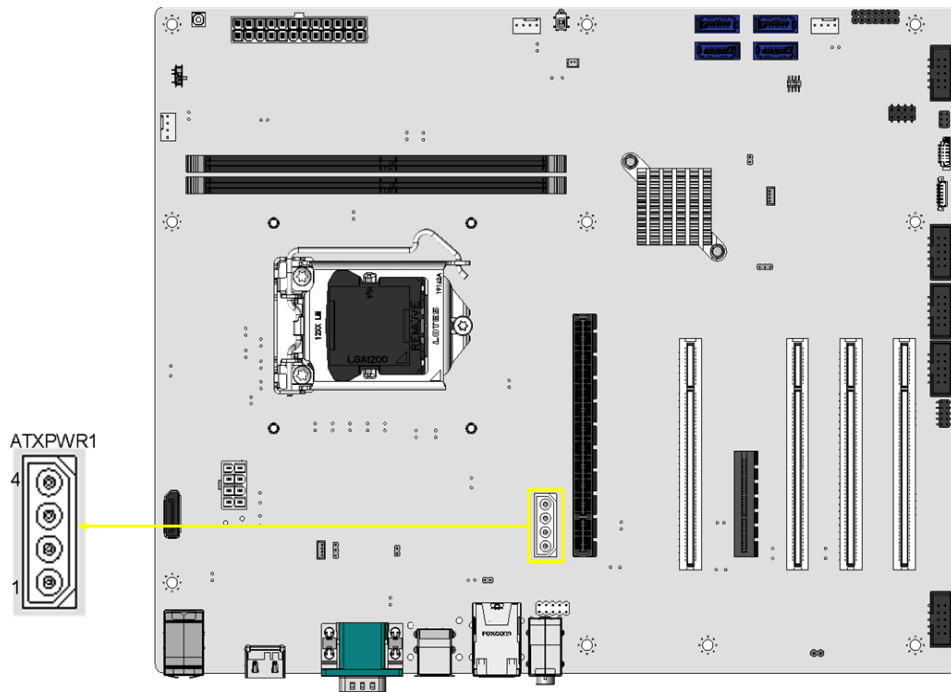

Figure 3-3: PCIe Power Connector Location
- CN Location:** See **Figure 3-3**